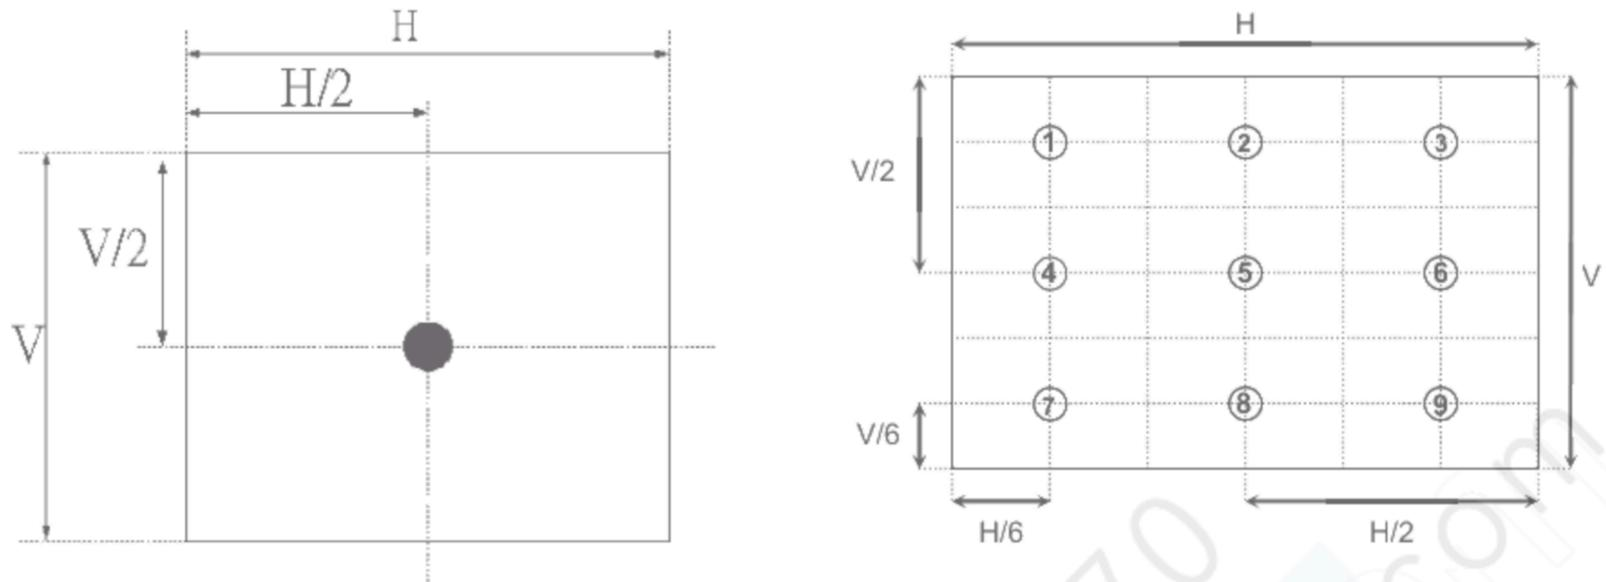

Fig. 3
3. The variation in surface luminance, δ_{WHITE} is defined (center of Screen) as (Fig. 3):